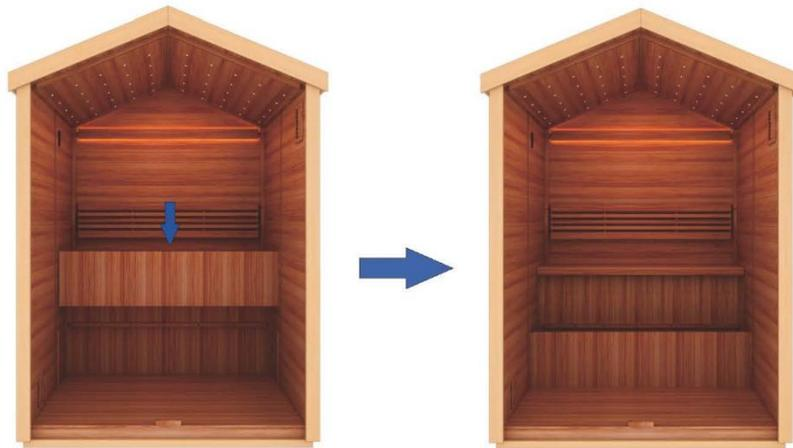
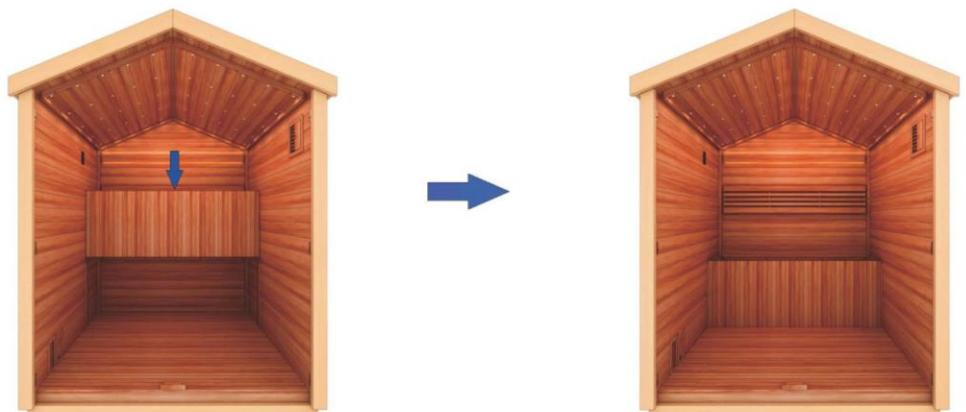

Figure 7
Figure 7a
1. First, be sure to run the power cord for the lights through the hole in the wall underneath the Circuit Connection Junction box. Also, be sure to locate the thin blue antenna wire at the Circuit Connection Junction box and uncoil it and stretch it out. For GDI-8506-01, locate the larger of the two BENCH SUPPORTS. This will be the upper BENCH SUPPORT. The upper BENCH SUPPORT (the larger of the two BENCH SUPPORTS) will need to be installed at an angle. See figure 7. Make sure to feed the power cable underneath the BENCH SUPPORT and that the BENCH SUPPORT slides all the way down. For both models, you can locate and install the lower BENCH SUPPORT. It will need to be installed at an angle as seen in figure 7a. Proceed to make the heater cord connections that will be hidden once the BENCH is installed. For GDI-8506-01, the lower BENCH SUPPORT heater cord can be feed through the upper BENCH SUPPORT in order to connect it to it applicable counterpart.